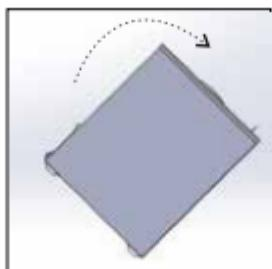
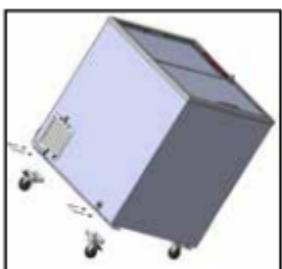

Fig. 2
Fig. 4
- Place your appliance as shown in Figure 2. Then, mount two castors with brakes in the back side of the container, by fixing the castors in the sockets under the container and ensure that the socket centers are aligned, as shown in figure 4. Then place the U-pins through the holes. Ensure the stability by placing the pin wedges.